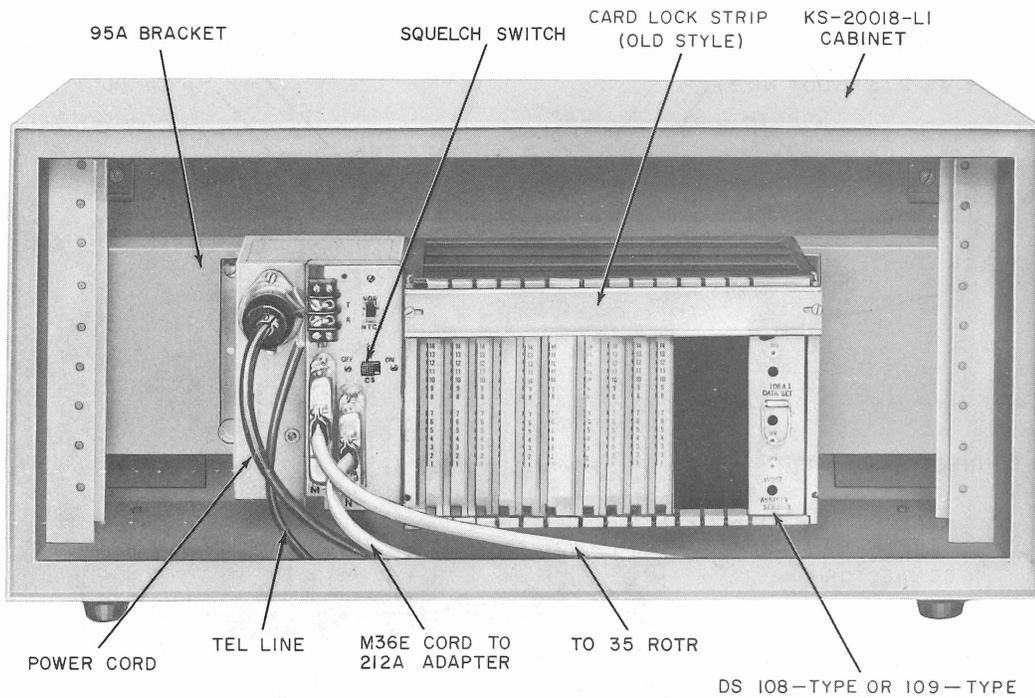

Fig. 7—Data Auxiliary Set 820G-L1/5 Mounted in a KS-20018-L1 Cabinet Using a 95A Bracket
**2.10** Installation of a 35 ROTR TTY shall be made in accordance with the section entitled 35 Receive Only Typing Reperforator (ROTR) Sets—Installation (574-203-200). Due to space limitations, the DAS 820J-L1/2 or 820G-L1/5 is housed in a KS-20018-L1, -L2, -L3, or -L4 cabinet, using a 95A bracket (refer to Fig. 7). The interconnection of station components for 35 ROTR stations is shown in Fig. 2. Check that all plugs and connectors are installed as indicated by the previously referenced figure and that the line wire is correctly connected to the T and R terminals. The spacers provided with the DAS 820J will be required in order to mount the controller.